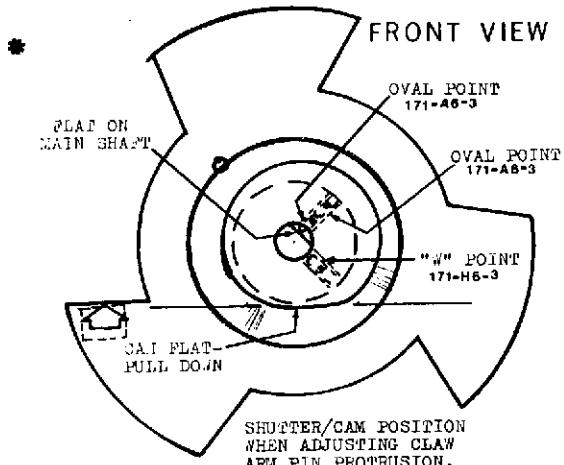

Figure 3-32. SHUTTER & SHAFT ALIGNMENT
(6). Remove jack screw and loosen two other screws as shown (Fig. 3-32). Position gage with bottom (No-Go) step aligned with top pin (protruded and started down). With firm finger grip on shutter,  $1/16$ " allen wrench in setscrew on flat . . . . press shutter forward. Observe meter. When pins make contact, ease off finger grip. When contact breaks, tighten setscrew.